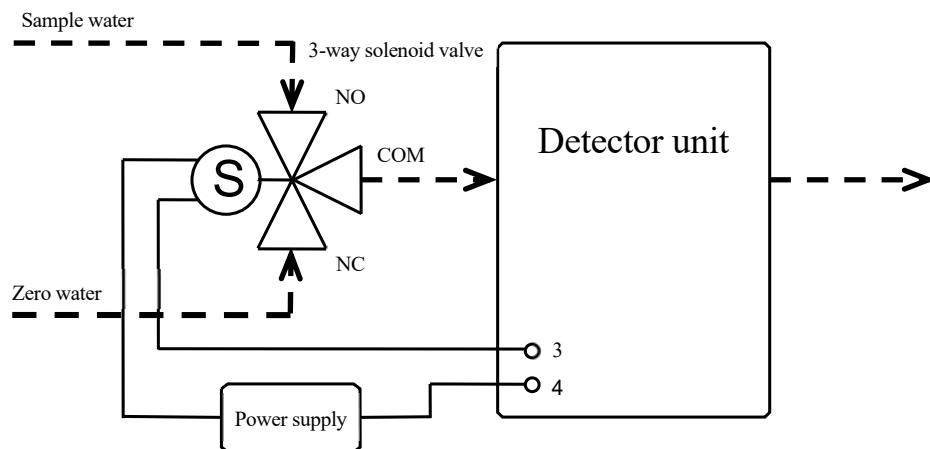

Figure-2 How to switch between Sample water and Zero water
- Please use material water or ozone-free water as zero water. When performing zero calibration, if you want to use zero water separately instead of stopping the ozone generator and flowing the material water, switch between the sample water and zero water using a three-way solenoid valve as shown in Figure-2.